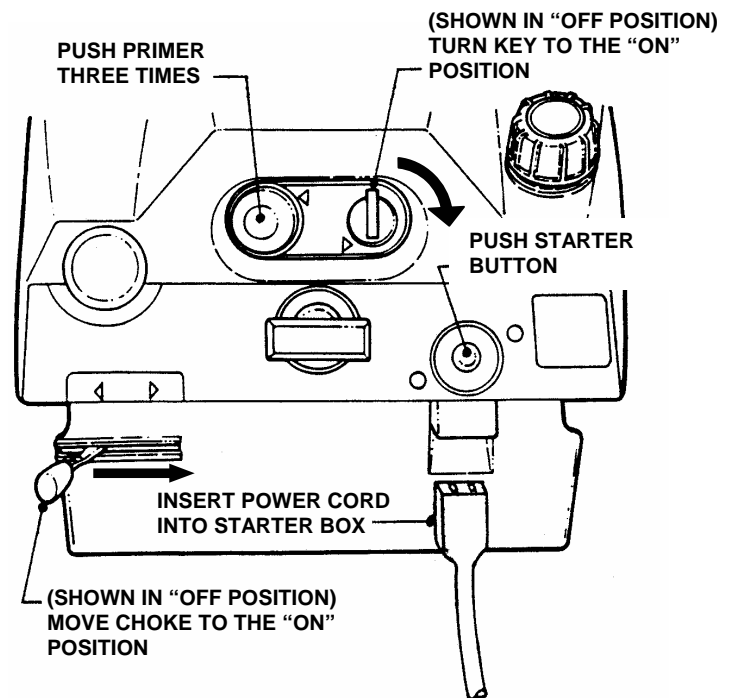

FIGURE 2.9
3. Move choke control to the choke "ON" position. See Figure 2.9.
5. Push the electric starter button. **DO NOT** hold button for more than 20 seconds to avoid damaging the starting motor. See Figure 2.9.